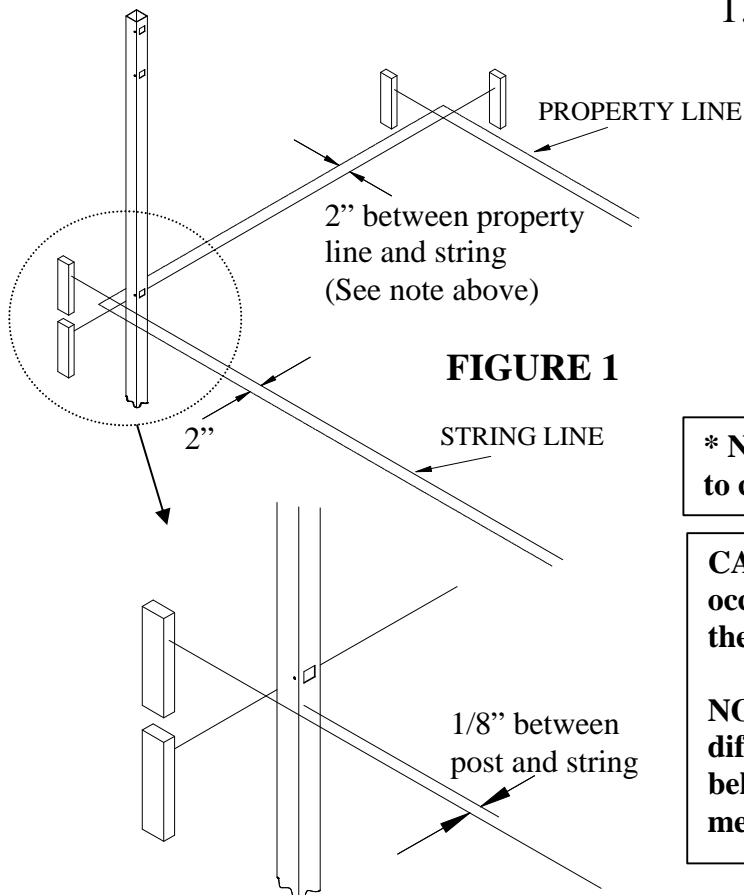

FIGURE 1
- 1.1. First stake out the area and run strings around as shown in Figure 1.